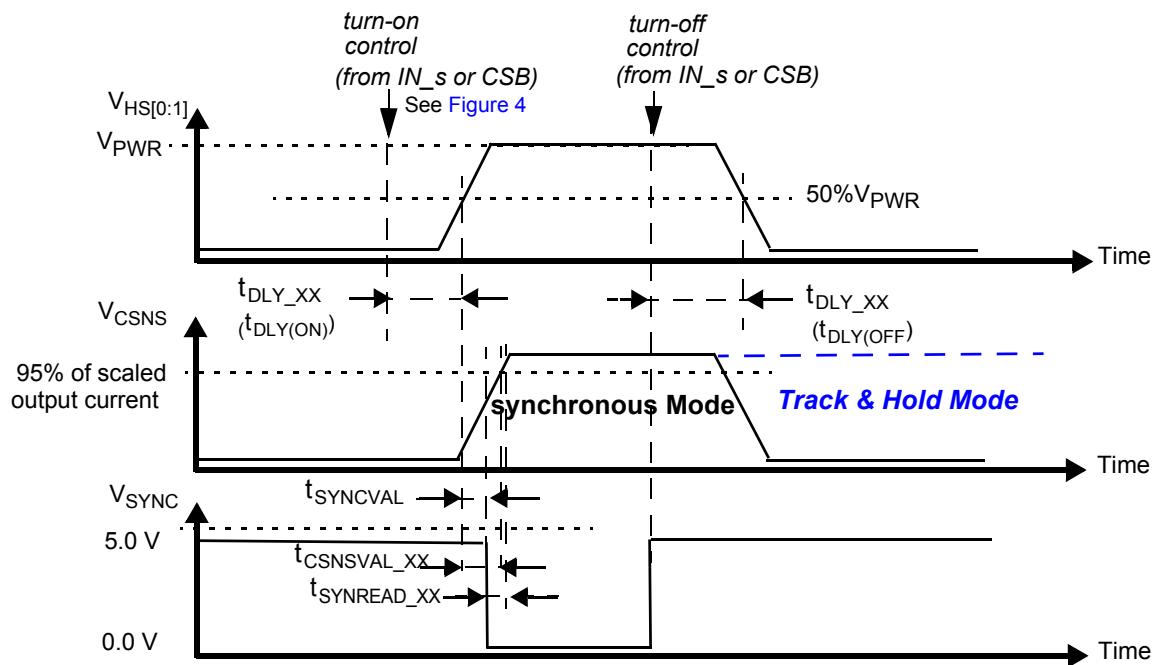

Figure 9. Synchronous & Track-and-Hold Current Sensing Modes: Associated Delay & Settling Times
31. Time required to switch off the channel after detection of overtemperature (OT), overcurrent (OC), SC or UV error (time measured between start of the negative edge on the FSB pin and the falling edge on the output voltage until $V(\text{HS}[0:1]) = 50\%$ of V_{PWR}).
33. Settling time ($= t_{CSNSVAL_XX}$), SYNC output signal delay ($= t_{SYNCVAL_XX}$) and Read-out delay ($= t_{SYNREAD_XX}$) are defined for a stepped load current using a 10 Ω resistive load for $\text{CSNS_RATIO_s} = 0$. (see Figure 9 and Output Current Monitoring \(CSNS\)).
The CS pin allows independent current monitoring of channel 0 or channel 1 up to the steady-state overcurrent threshold. It can also be used to sense the device temperature. The different functions are selected by setting bits CSNS1_en and CSNS0_en to the appropriate value (Table 22). When the CSNS pin is sensed during switch-off in the (optional) track & hold mode (see Figure 9), it outputs the scaled value of the load current as it was just before turn-Off. When several devices share the same pull-down resistor, the CSNS pins of devices the current of which is not monitored must be tri-stated. This is accomplished by setting CSNS0_en = 0 and CSNS1_en = 0 in the GCR register (Table 9). Settling time ($t_{CSNSVAL_XX}$) is defined as the time between the instant at the middle of the output voltage's rising edge ($HS[0:1] = 50\%$ of V_{PWR}), and the instant at which the voltage on the CSNS-pin has settled to $\pm 5.0\%$ of its final value. Anytime an overcurrent window is active, the CSNS pin is disabled (see Overcurrent Detection on Resistive and Inductive Loads). The current and temperature sensing functions are unavailable in Fail-safe mode and in Normal mode when operating without the V_{DD} supply voltage. In order to generate a voltage output, a pull-down resistor is required ($R(CSNS)=1.0\text{ k}\Omega$ typ. and $470 < R(CSNS) < 10\text{ k}$). When the current sense resistor connected to the CSNS pin is disconnected, the CSNS voltage is clamped to $V_{CL(CSNS)}$. The CSNS pin can source currents up to about 5.6 mA.
To synchronize current sensing with an external process, the SYNC signal can be connected to a digital input of an external MCU. SYNC is asserted logic low when the current sense signal is accurate and ready to be read. The current sense signal on the CSNS pin has the specified accuracy $t_{SYNREAD_XX}$ seconds after the falling edge on the SYNC pin (Figure 9) and remains valid until a rising edge is generated. The rising edge that is generated by the SYNC pin at the turn-OFF instant (internal or external) may also be used to implement synchronization with the external MCU. Parameter $t_{SYNCVAL_XX}$ is defined as the time between the instant at the middle of the output-voltage rising edge ($HS[0:1] = 50\%$ of $VPWR$), and the instant at which the voltage on the SYNC-pin drops below 0.4 V (V_{SOL}). The SYNC pins of different devices can be connected together to save μ -controller input channels. However, in this configuration, the CSNS function of only one device should be active at a time. Otherwise, the MCU does not determine the origin of the SYNC signal. The SYNC pin is open drain and requires an external pull-up resistor to V_{DD} .